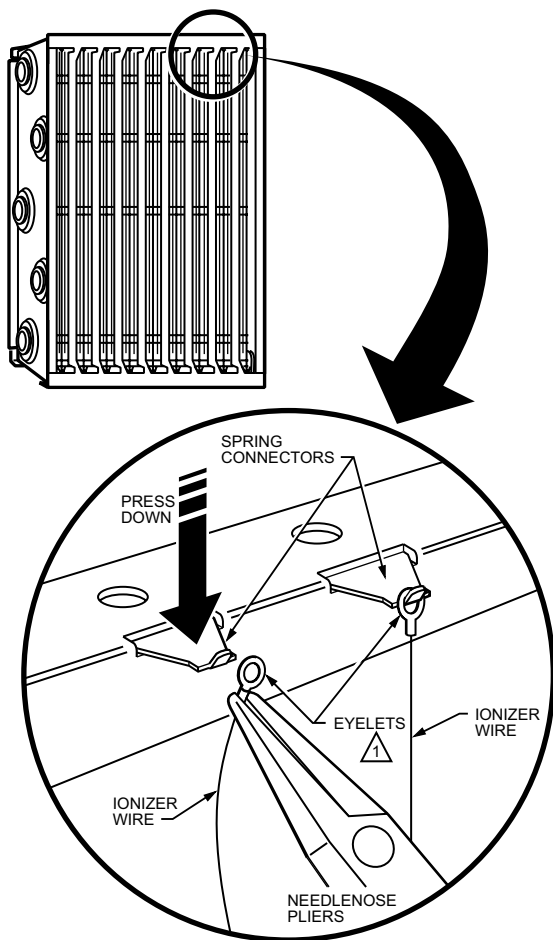

Fig. 17. Install new ionizer wire by hooking eyelets over spring connectors.
1. Hook the eyelet on one end of the wire over the spring-connector on one end of the cell. See Fig. 17. Be careful to avoid damaging the spring connector or other parts of the cell.